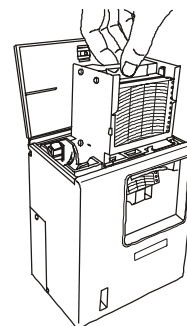

Fig. 2
2. Pull the cartridge up after opening the top lid. The lid can be opened by turning the knob counterclockwise. See Fig. 2.
**NOTE:** Loading a ink pen, turn the power OFF and then ON again to return to the normal mode. (Refer to Fig. 2 when loading a ink pen.
3. Press both sides of the pen arm as indicated by the arrows to open the head clamp at A and B. (See to Fig. 2 illustration 1)
4. Position the ink pen so that the guide pins fit into the guide holes on the pen arm. (See to Fig. 2 illustration 2)
5. Press the two sides of the head clamp as indicated by the arrows to secure the ink pen. (See to Fig. 2 illustration 3) From the side view, the cartridge should fit perfectly on the arm. Confirm that the pen arm is attached to both sides of the ink pen.